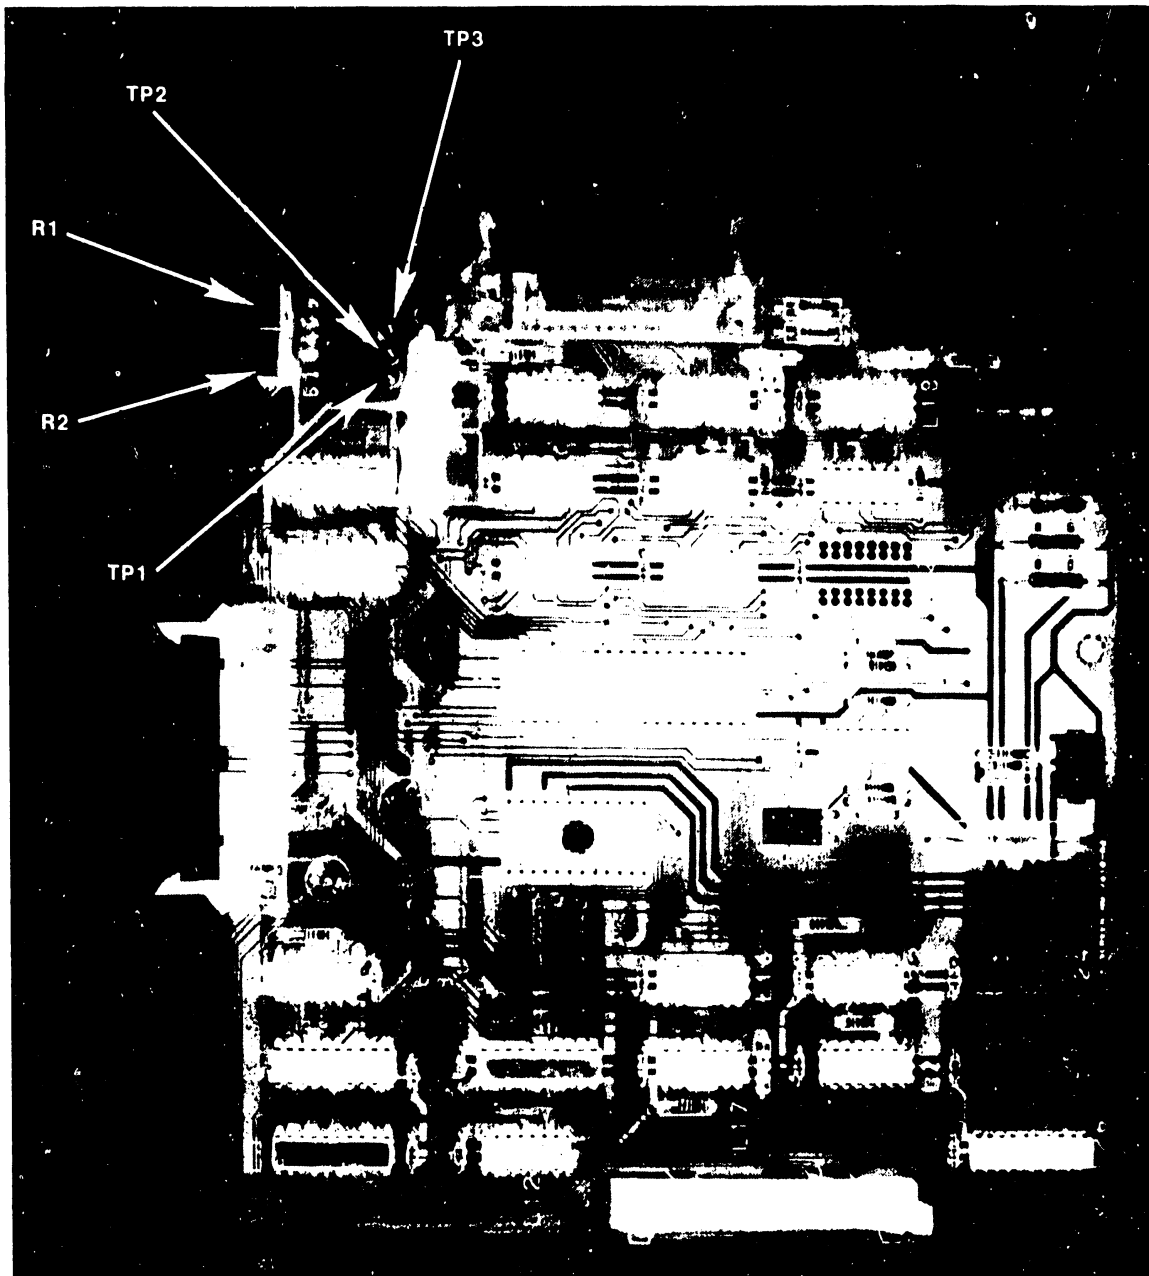

Figure 5-1. 210-7610 Mini-diskette Drive
- k. Connect probe 1 to TP1 (L6-7). (Figure 5-1.)
- l. Connect probe 2 to TP2 (L6-9). (Figure 5-1.)